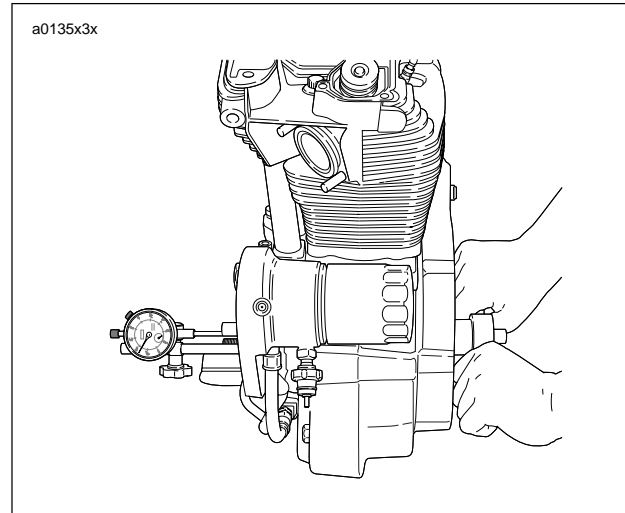

Figure 3-114. Checking Flywheel End Play
- See Figure 3-114. Attach a dial indicator to gear side crankcase with indicator stem on end of gearshaft.